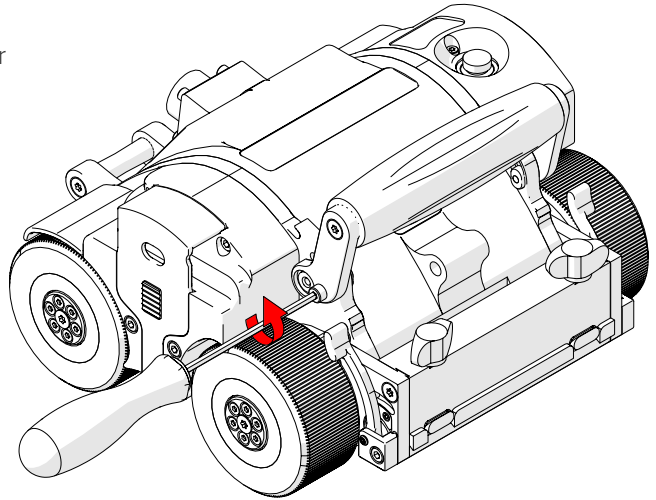

Fig. 56 - Unscrew handle lock screw
1. To lower the handle, use the supplied 3 mm driver to loosen the handle lock screws on either side of the handle (Fig. 56).